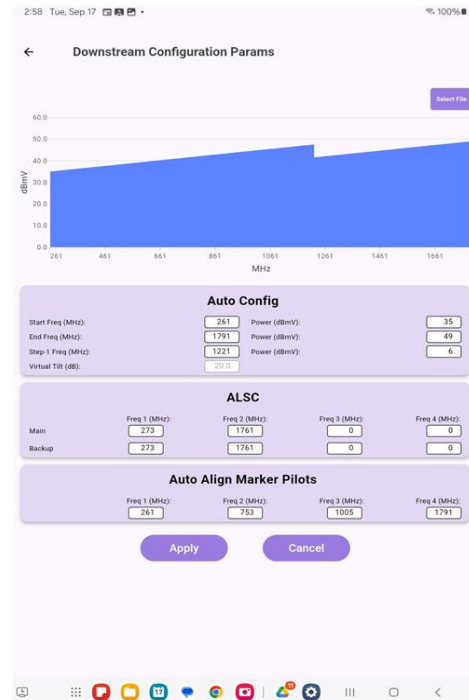

Figure A- 16: Configuration Settings
7. Confirm the Downstream Config Parameters for: Auto Config, ALSC and Auto Align Marker Pilots correctly matches the site profile data loaded. Once confirmed select "Apply" and return to the Home screen, see Figure A-16.